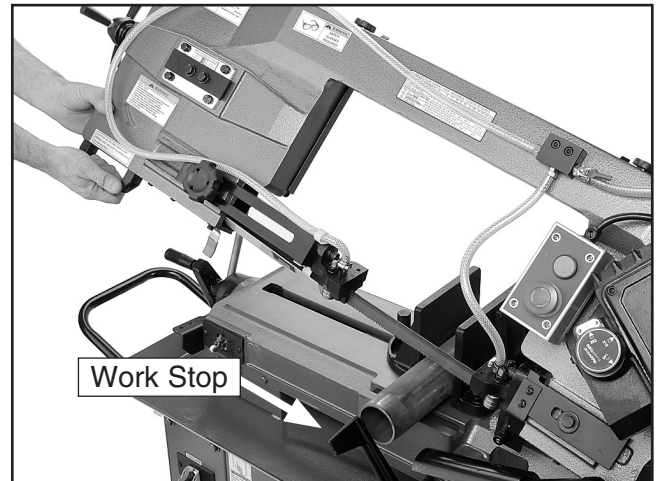

Figure 24. Proper starting position.
- Let the blade reach full speed before engaging the workpiece. Never start a cut with the blade in contact with the workpiece (see **Figure 24**).